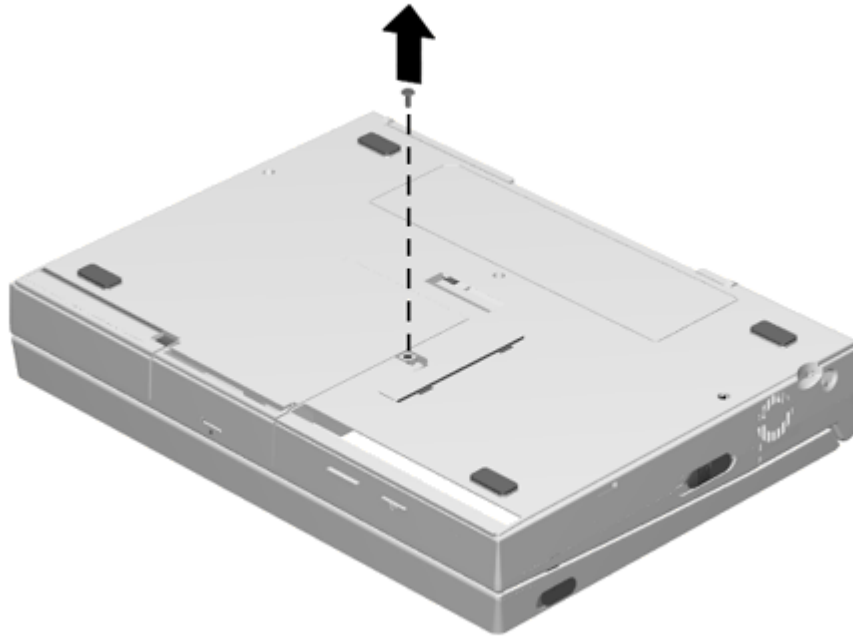

Figure 5-10. Removing the Hard Drive Security Screw
1. Remove the security screw from the hard drive release on the bottom of the computer (Figure 5-10).
4. Install the security screw (optional) as shown in Figure 5-10.